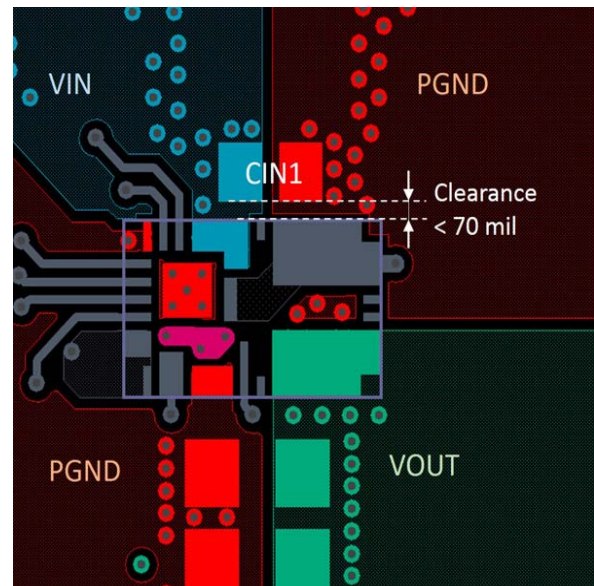
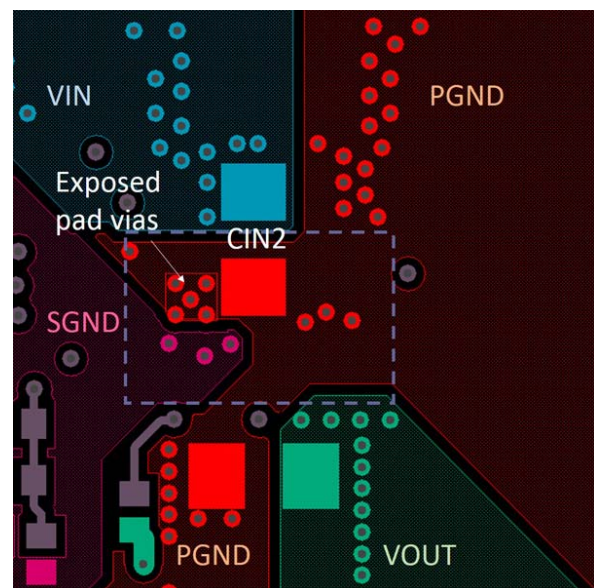

FIGURE 39. LAYOUT EXAMPLE - TOP LAYER
FIGURE 40. LAYOUT EXAMPLE - BOTTOM LAYER
A few layout considerations need to be taken into account in order to achieve proper operation of ISL8202M. An optimized layout design also allows the module to have lower power loss and good thermal performance. An illustrative layout example is shown in Figures 39 and 40. Key points are listed in the following:
- Place the input ceramic capacitors as close as possible to the module input. These ceramic capacitors are used to minimize the high frequency noise by reducing parasitic inductance of the switching loop. Optimized placement of these capacitors will not only lead to less switch node ringing but also minimize the noise seen by the module to insure proper operation. It is recommended to use X5R or X7R ceramic capacitors with minimum total capacitance of 44 $\mu$ F at module input. It is a **MUST** that one of the input capacitors ( $C_{IN1}$ ) with no less than 3.3 $\mu$ F capacitance should be placed on the same layer (assuming top layer) as module and within less than 70 mil clearance to module input (refer to Figure 39). For capacitors on the bottom layer, it is recommended to have one ( $C_{IN2}$ ) placed from VIN to PGND copper close to exposed pad (Pad 20) vias (as shown in the layout example in Figure 40).
- Use a separate SGND ground copper area for components that are connected to signal ground. Connect SGND copper to module Pad 22 through multiple vias (refer to Figure 40). Because Pad 22 is connected to module internal PGND at a